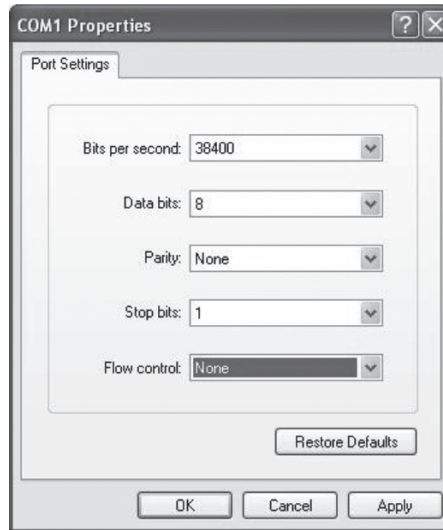

Figure 6-7 Port Settings
5. Configure the port selected in the step above as the following Figure 6-7 shown. Configure Bits per second as 38400, Data bits as 8, Parity as None, Stop bits as 1, Flow control as None, and then click OK.